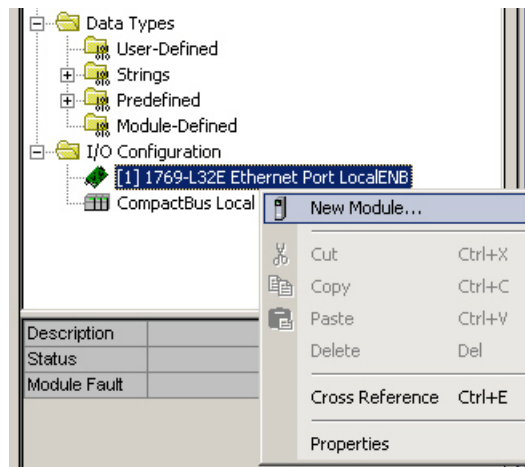

Figure 6.3 Adding an SD31045E
- 1) As shown in figure 6.3 on the right, the Ethernet port will be listed under the I/O Configuration tree. Right click on the port and then click on “New Module...” in the pop-up menu.